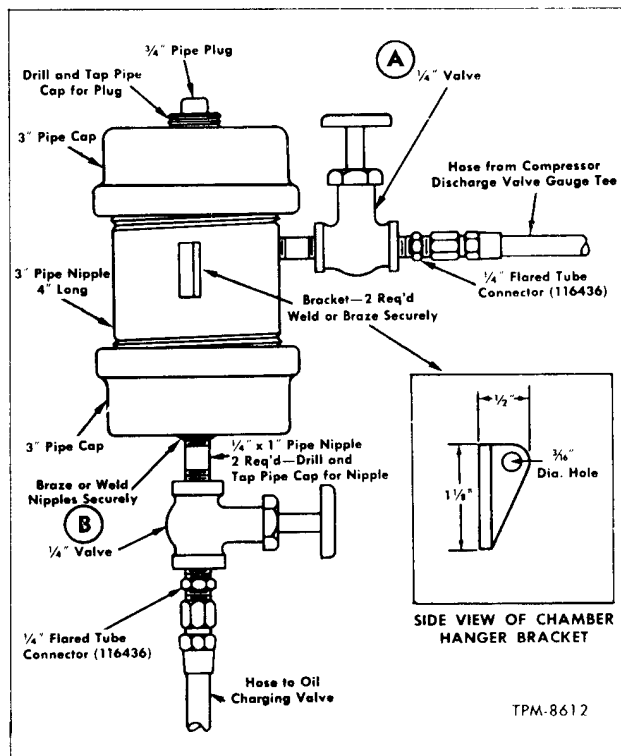

Figure 87—Fabricated Chamber for Adding Oil to Compressor
Figure 87 illustrates a chamber which can be fabricated locally using readily available parts. It is easy to visualize many other methods of constructing such a chamber, however, the general principles of the one shown in figure 87 should be followed.
1. Close both valves ("A" and "B," fig. 87) on oil chamber.
3. Backseat compressor discharge valve, then connect a hose of sufficient length from upper valve ("A," fig. 87) of oil chamber to test gauge fitting at top of compressor discharge valve. Connect another hose from lower valve ("B," fig. 87) of oil chamber to oil charging valve at top of compressor.